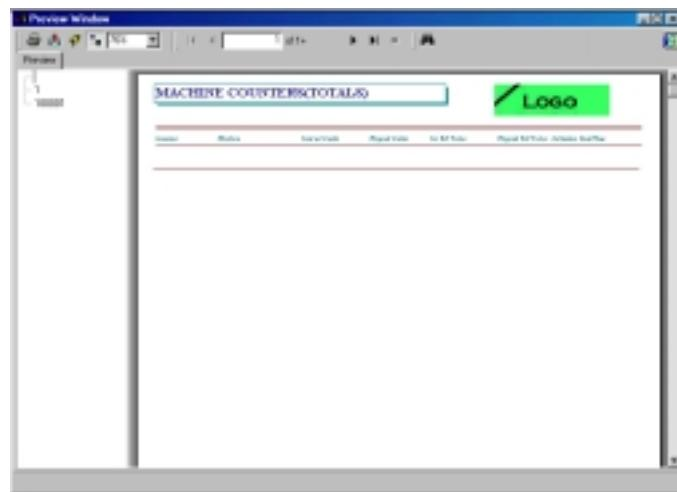

Figure 14.3 Report with Logo
6. If logo was successfully selected, it will now be displayed in all SMS2 reports (Figure 14.3).